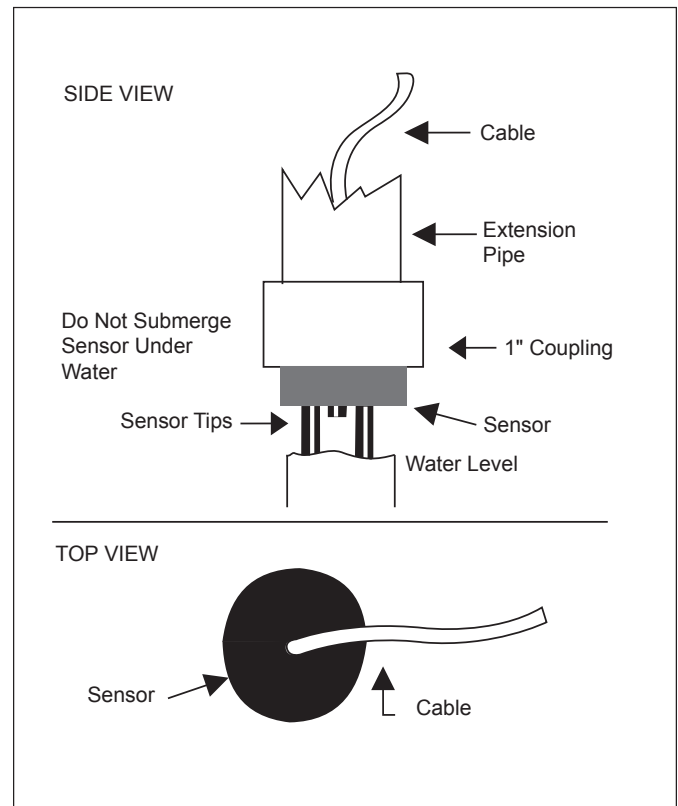

Figure 8. Slip Sensor on Static Pipe
1. Mount the slip sensor vertically in a static pipe. See Figure 8.